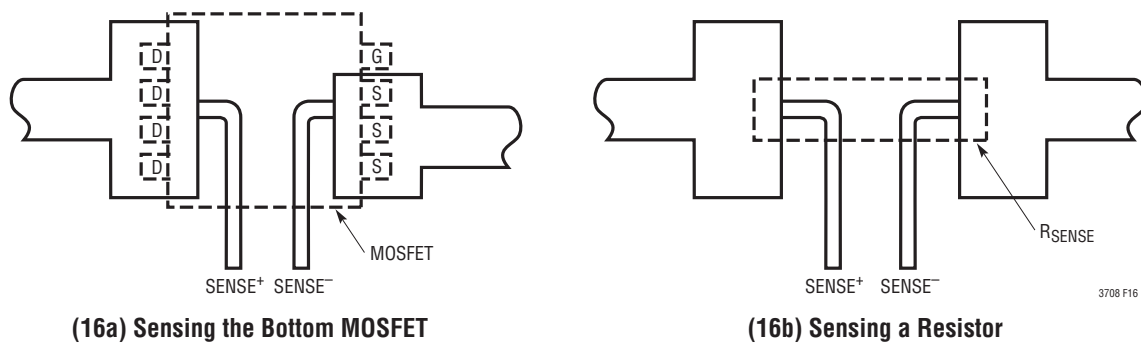

Figure 16. Kelvin Sensing
- Run $SENSE^+$ and $SENSE^-$ across the bottom MOSFET (or R_{SENSE} when a separate current sensing resistor is used) with Kelvin connection (Figure 16). Route $SENSE^+$ and $SENSE^-$ together with minimum PC trace separation. The filter capacitor (when used) between $SENSE^+$ and $SENSE^-$ should be as close to the LTC3708 as possible.